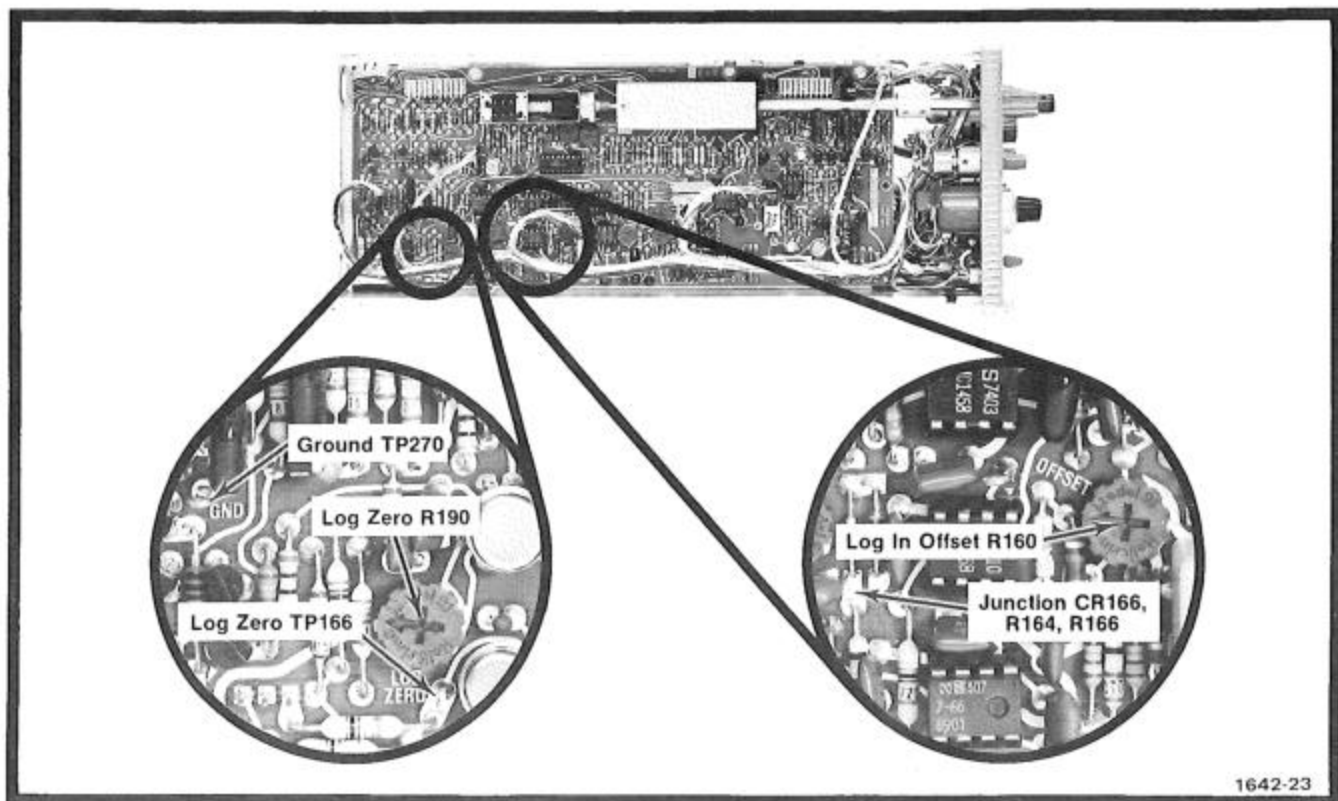

Fig. 5-18. Location of Logarithmic Amplifier balance test points and adjustments.
a. Connect the negative meter lead of the DVM to the ground test point TP270 (see Fig. 5-18) and the positive meter lead to the junction of CR166, R164, and R166 (see Fig. 5-18) on the Vertical Circuit Board.
e. ADJUST—Log In Offset R160 (see Fig. 5-18) for a meter reading of exactly +6.2 mV.
f. Move the positive meter lead to the Log Zero test point TP 166 (see Fig. 5-18).
i. ADJUST—Log Zero R190 (see Fig. 5-18) for a meter reading of exactly 0 V.